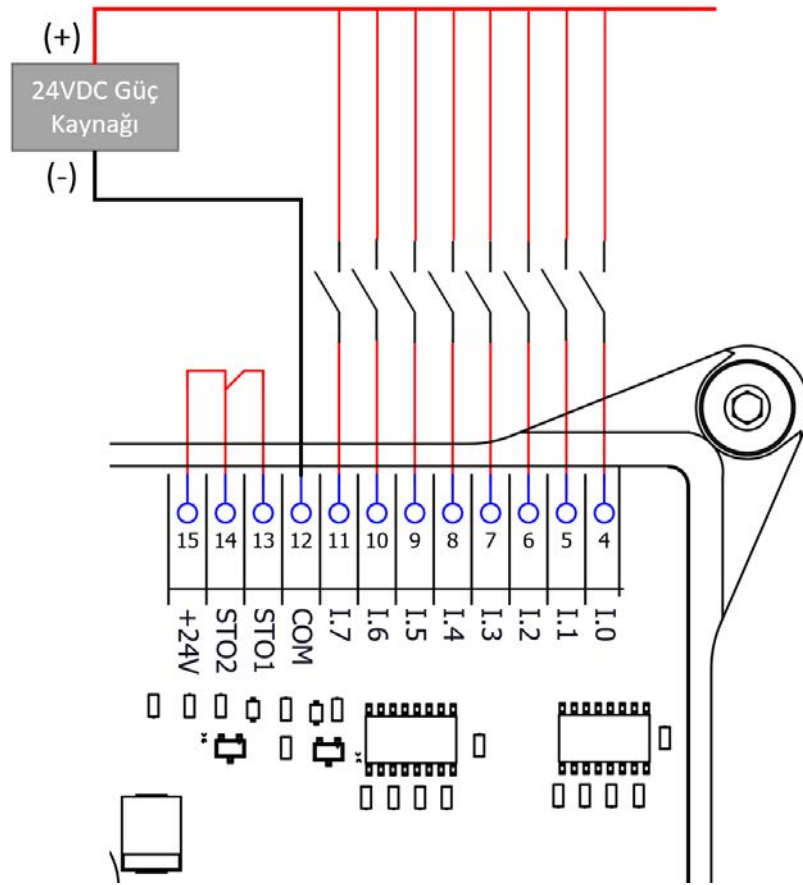
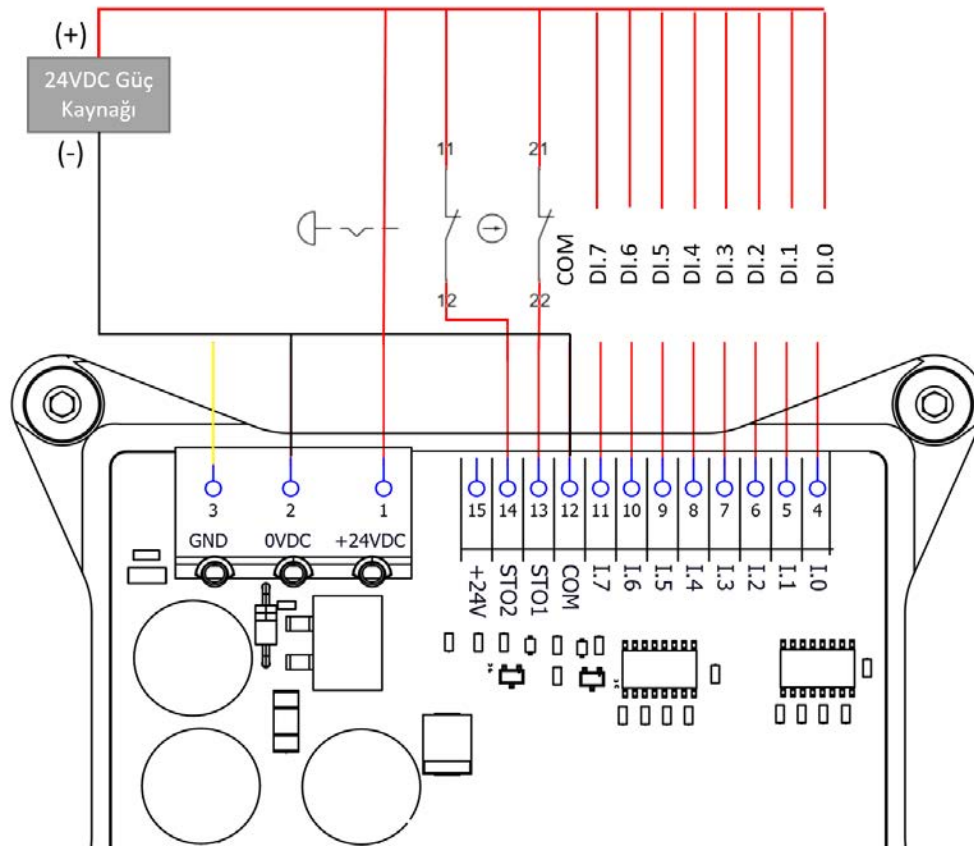

Figure.8
Figure.10
3.2.2.1. PNP / Current Sourcing (Source) Type Device Connection (Figure 8)
- **Connection Details (According to Figure 8):**
1. Dual Channel Safety Connection (STO Active) Figure 10 (Bottom picture) shows the standard connection type where the hardware STO safety function is actively used.
- **Connection Type:** The STO1 (13) and STO2 (14) terminals on the module are connected to independent safety signals (STO-IN1 and STO-IN2) coming from an external safety relay or a Safety PLC.
2. Disabling the STO Function (Bridging/Bypass) Figures 8 and 9 (Top pictures) show the connection that must be made in cases where an external STO safety layer is not required in the system design.
- **Connection Type:** The STO1 (13) and STO2 (14) terminals are bridged to each other and connected directly to the internal +24V (15) supply terminal on the module.
⚠ Important Safety Warning: Bridging the STO terminals to the +24V pin (Figures 8 and 9) completely disables the hardware safety function of the module. This procedure must only be applied if it is confirmed that the STO function is absolutely not needed in the machine as a result of the risk assessment performed.